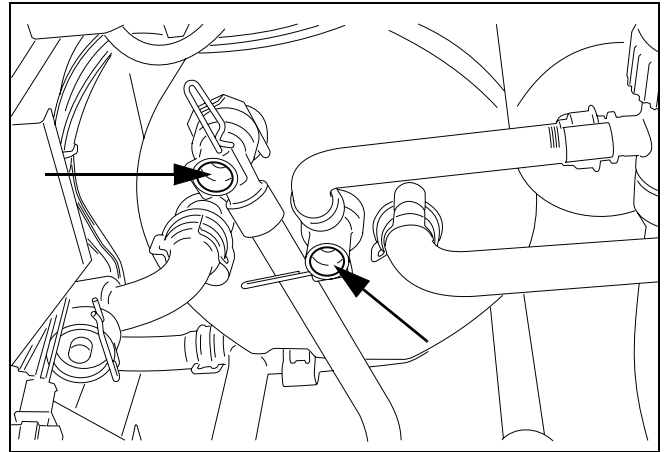

fig. 63 Flushing the hot water tank
- Pull out the standby- and hot water sensor and place the flushing connections in their place (→ fig. 63).